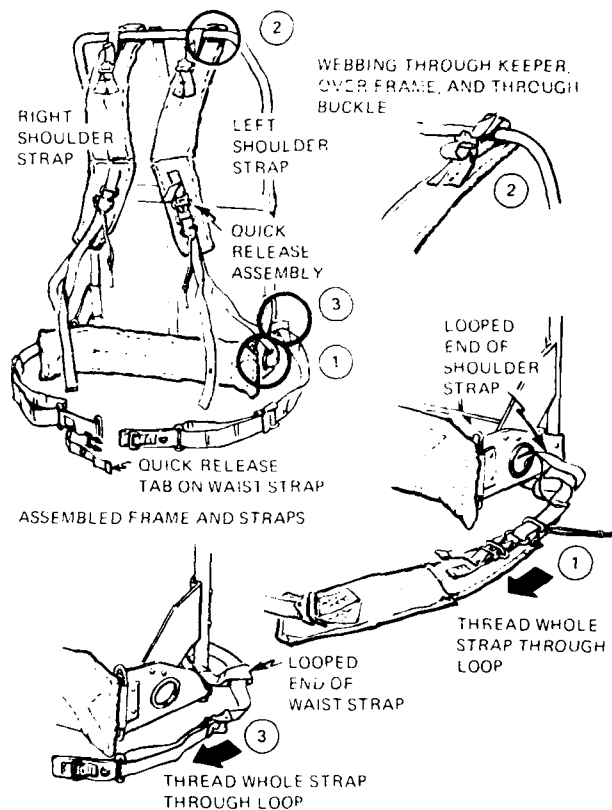

Figure 2-10.—Attaching shoulder and waist straps to pack frame.
4. Frame with the medium pack attached to it (See fig. 2-10.)
The following three steps for attaching the existence load shoulder and waist straps correspond to the three actions highlighted in figure 2-10.